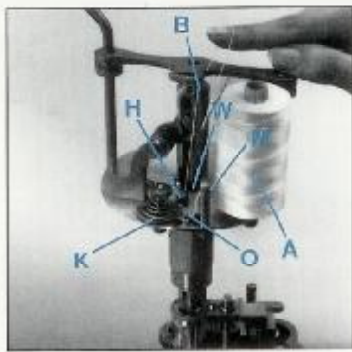
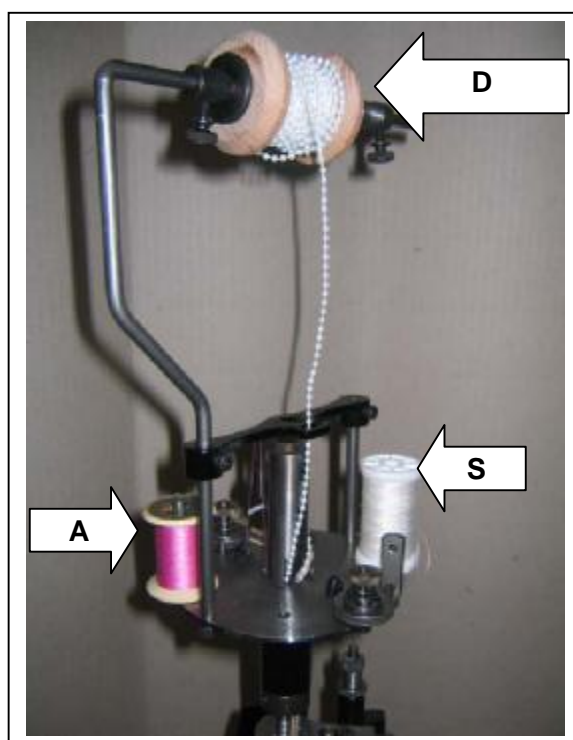
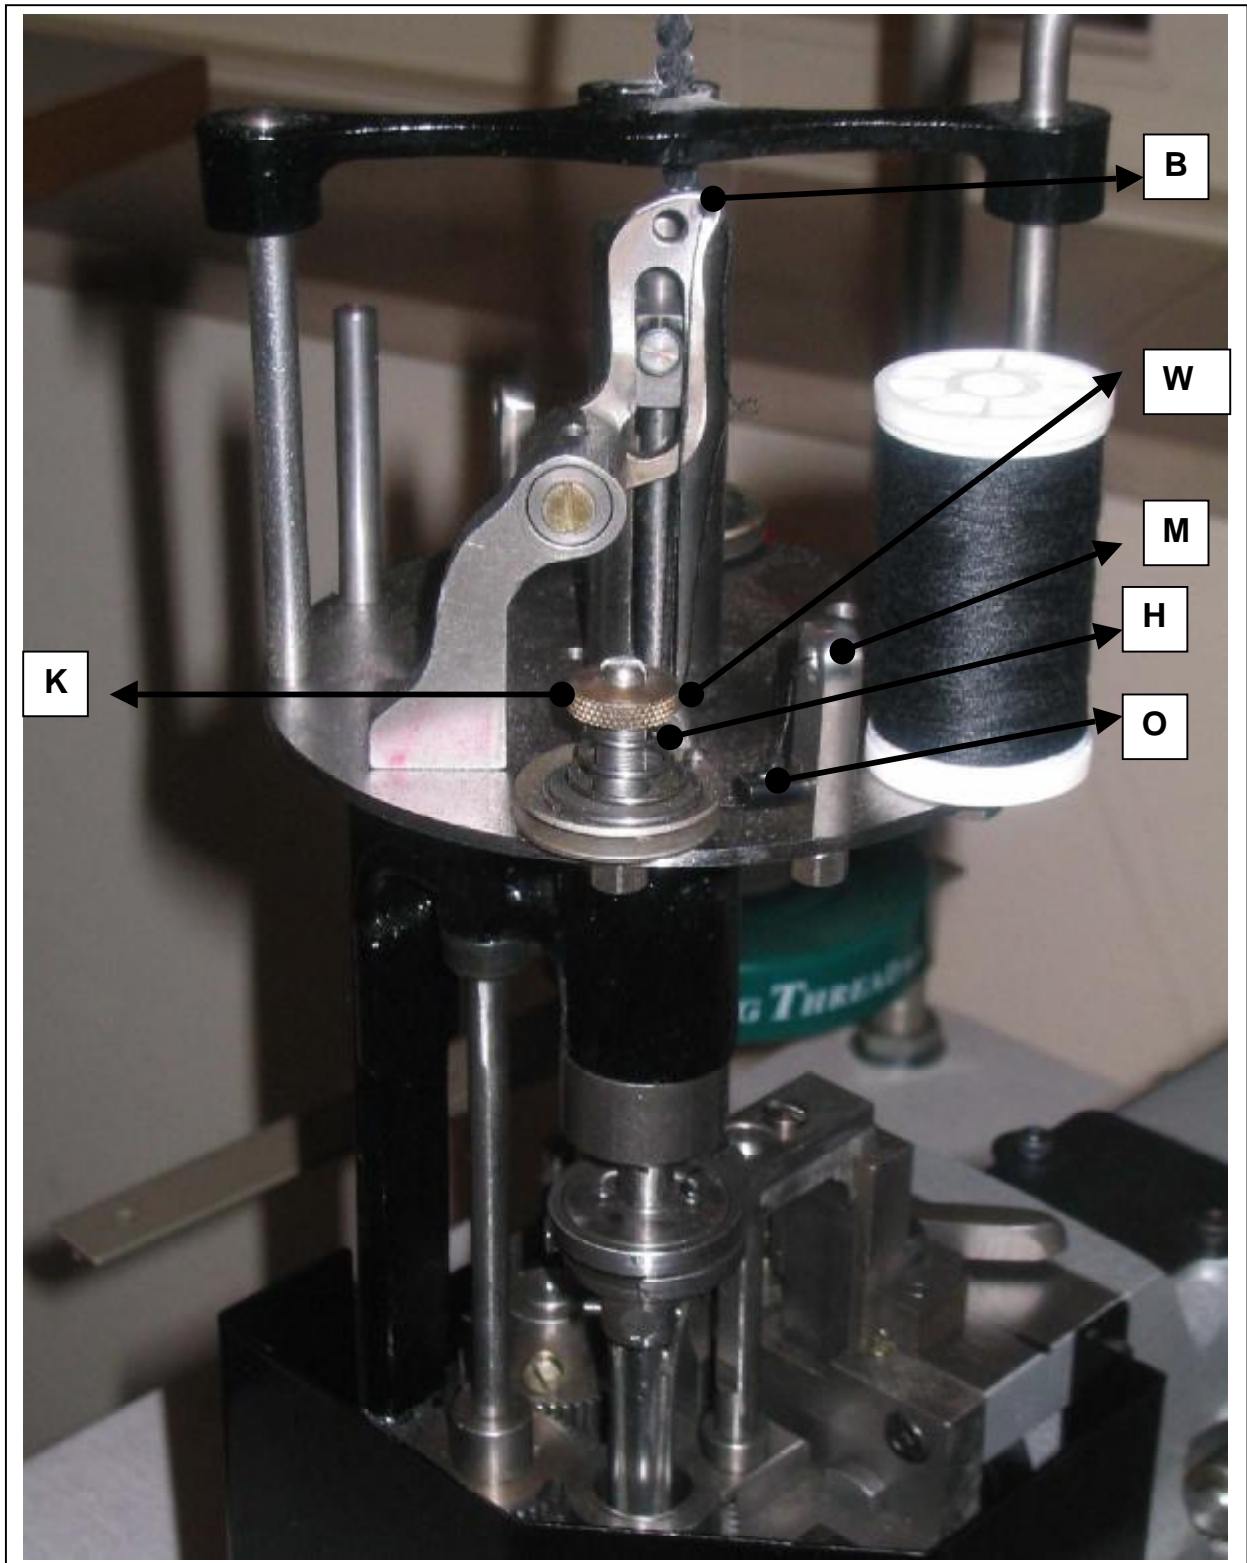

Fig.6
FIG. 10
Fig. 11
If you are working with such a needle, you have to put your needle thread on bobbinholder A at the right side while the crank is place in forward position. You also can put this on the bobbinholder S. (Fig. 10)
As from bobbinholder A or S you have to follow the route as indicated in Chapter 5 « THREADING » (Fig 6 & 7 & 11). The crank should always be placed in forward position.
Turn the crank opposite to the operator at twelve o'clock (compare the movement of the handle to a clock hand). The spool A on the upper revolving plate is on the right. (Fig 6)
Put a spool of strong cotton and thread as shown through the holes M, O, H, B, W. (Fig 6 & Fig 11) Use the tweezers to thread the small holes and the twisted wire threader to take the thread down the small thread tube (W). Before pushing the threader down the tube, pull 30 cm between the tension K and the hole W so that the thread does not break during the threading down the tube. Also lower the pressure foot to take the threader out to the right more easily. Before this, tighten the thread into the threader wire so that it does not escape during the operation. Then thread the needle from 6 to noon.
THREADING OF SUPPLIES : If you are working with different supplies, for example : sequins, you have to put those supplies on spool D (Fig. 10). From there those supplies will enter the central threading through the adapted guide to arrive finally on the tissue.
Turn the crank at noon so that the slot R is facing the operator. The sequin spool D is on the upper spool holder. (Fig 10)
THREADING OF THE NEEDLE THREAD : The spool holders can have 2 bobbins A and S (Fig. 10), two tighteners : B, two tensions : K and the eye holes O-M-H-W. (Fig. 6 & Fig. 11)
If you are using 2 needles, you have to use Bobbinholders A + S. (Fig 10)